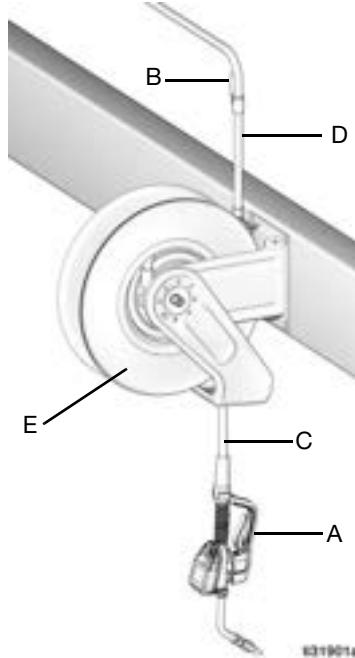

FIG. 6
The typical installation shown in FIG. 6 is only a guide. It is not a complete system design. Contact your Graco distributor for assistance in designing a system to suit your needs.
2. Close shut-off valve (B), see FIG. 6, page 9.
1. Close the fluid shut-off valve (B), see FIG. 6, page 9 at each dispense position.
4. Slowly open the shut-off valve (B) at the dispense position. Flush out a sufficient amount of oil to ensure that the entire system is clean; then close the valve.